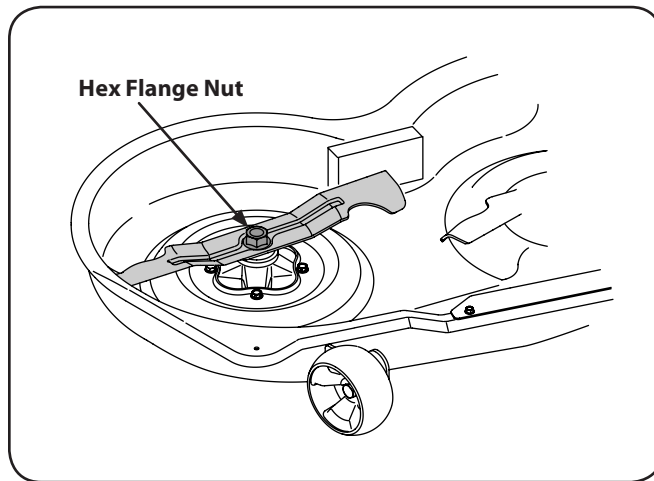

Figure 7-9
2. Place a block of wood between the center deck housing baffle and the cutting blade to act as a stabilizer. See Figure 7-9.
3. Remove the hex flange nut that secures the blade to the spindle assembly. See Figure 7-9.